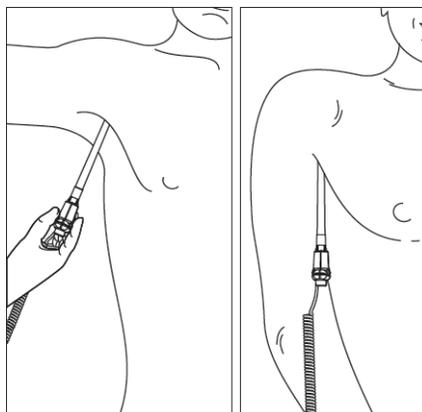

Figure 69: Axillary Temp Probe Position
- 8) Lower the patients arm and remain as still as possible. Hold the Temp Probe parallel to the arm as shown (refer to Figure 69). Hold the arm in this position without movement of the arm or Temp Probe during the measurement cycle.